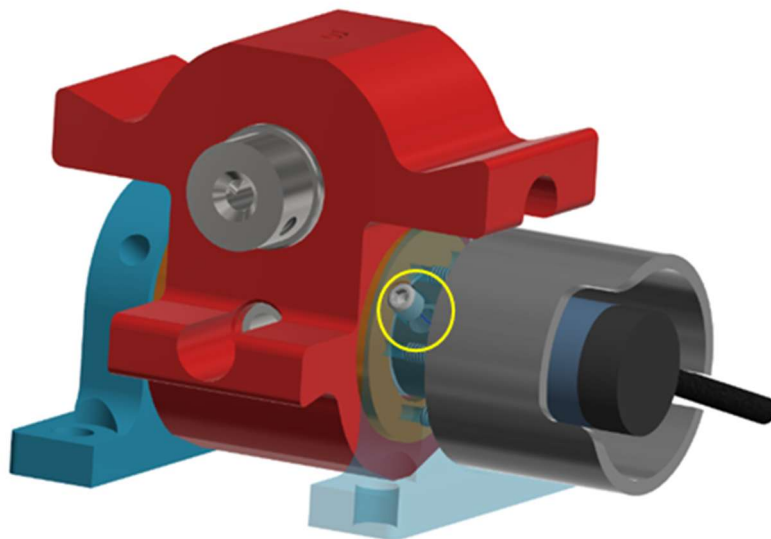

Figure 10-41. Tighten the M3 X 0.5 X 3 LG. SSSNP on the Y-Axis Potentiometer
10.3.6 Tighten the M3 X 0.5 X 3 LG. SSSNP on the Y-Axis Potentiometer (Figure 10-41).